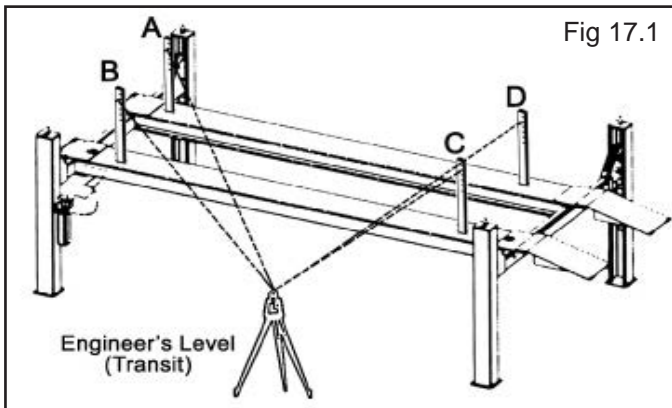

Fig 17.1
5. Beginning with "A" position, sight the level to the target and mark the number or the graduation on the inch scale of the target that aligns to the cross hairs of the Level. (See Fig. 17.1)
6. Next, move the target and place it at point "B" on the runway. (See Fig. 17.1)
8. Adjust the adjustment nut on the safety ladder bar at the top of the Column at "B" until the cross hairs of the Level align to reference mark on the target scale. (See Fig. 17.1)
9. Repeat steps locating the target assembly at points "C" and "D" and adjusting safety ladders at each corresponding Column until the reference mark on the target scale is on the cross hairs of the Level. The Runways are now level at all four points. (See Fig. 17.1)